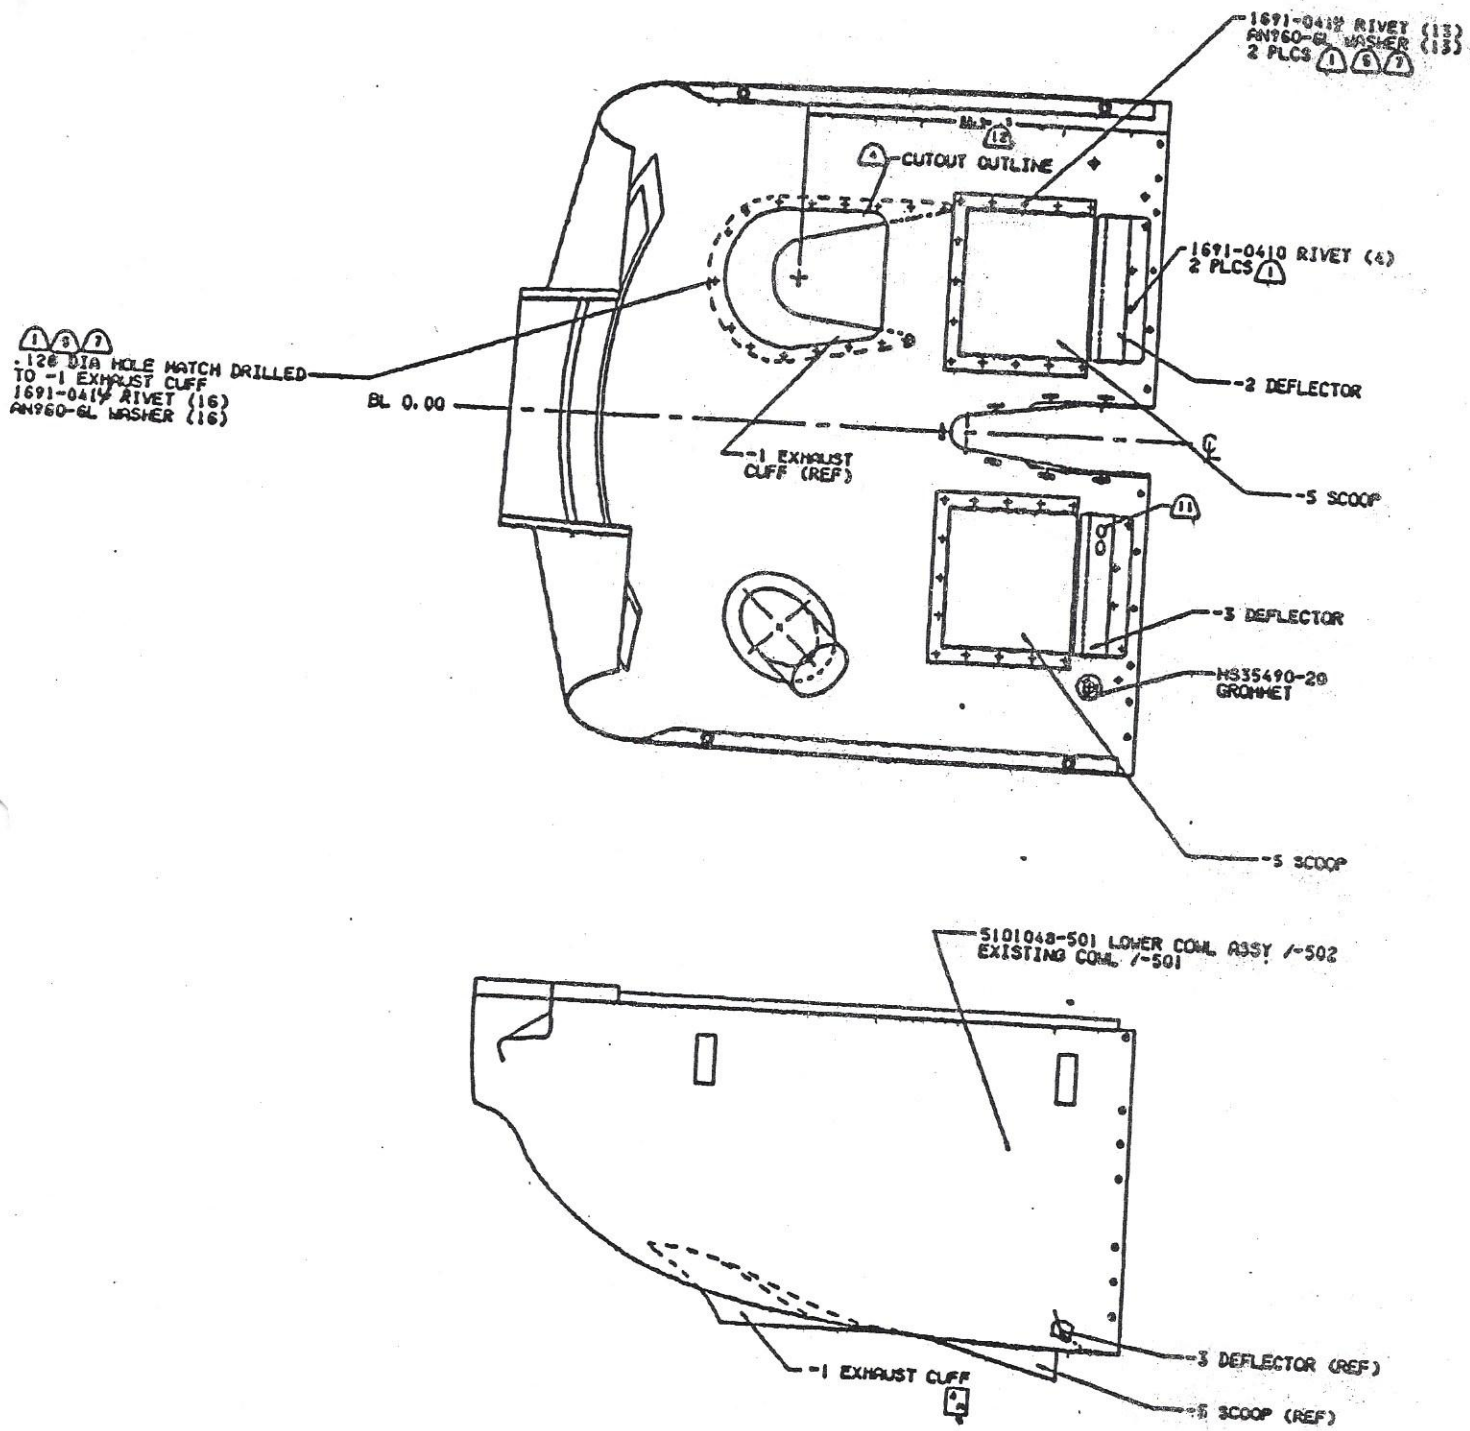

FIGURE 1
#### A. 5101049-1 EXHAUST CUFF INSTALLATION (FIGURE 1)
- B-4 Locate the -5 cowl flaps on the lower cowl so that the cowl flap flange is on the inside of the cowl (FIGURE 1) and match drill (13) 0.128 inch. dia. holes thru each cowl flap and the lower cowl skin.
- B-6 Apply RTV sealant, Pro-seal 890 or Scotch 800 to the flange area. Re-locate the -5 Cowl Flaps and attach each using (13) 1691-0414 rivets dipped in sealant and installed with the rivet heads on the outside of the cowl with AN960-6L washers installed on the back side of the rivets.
- C-1 Locate the -2 and -3 deflectors on the inside lower cowl and using the pilot holes in the deflectors as a guide, match drill (4) 0.128 inch dia. holes thru each guide and the lower cowl skin in. (FIGURE 1)